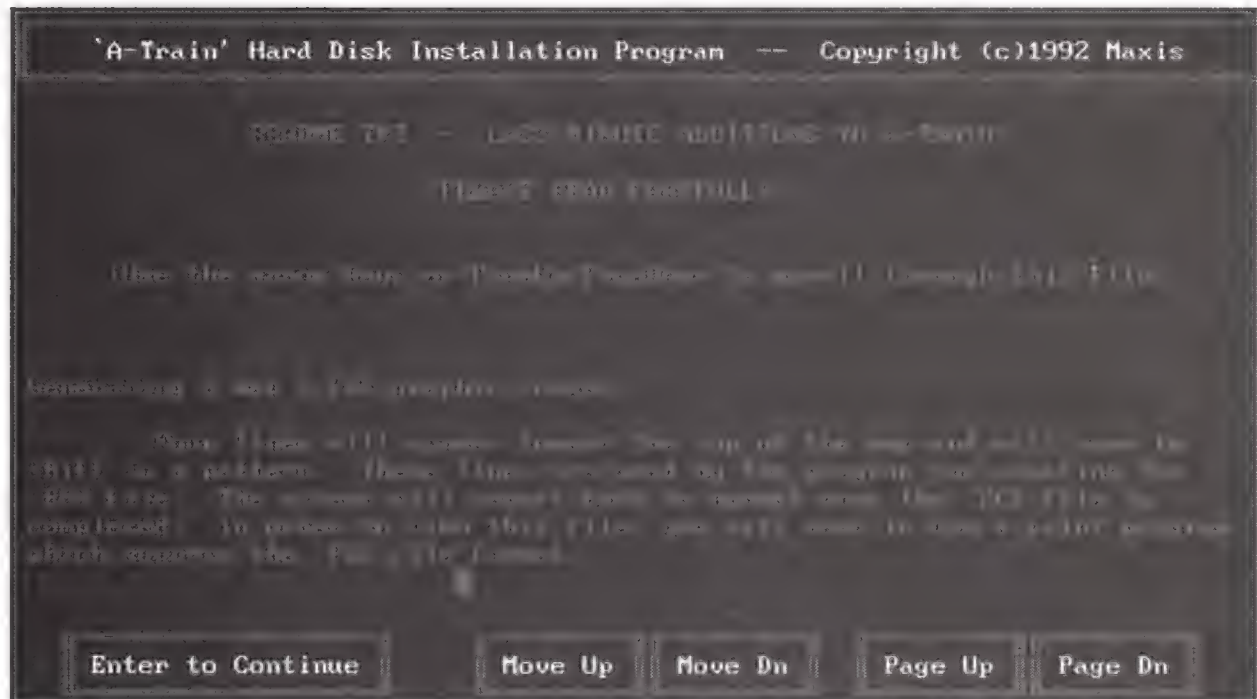

Figure A.10 Readme text; last minute additions to A-Train
16. If you are using the 5¹/₄" disks, continue to follow the install program's prompts to install and remove the remaining installation disks. When the program is finished installing A-Train, you will see the Readme text screen as shown in Figure A.10.